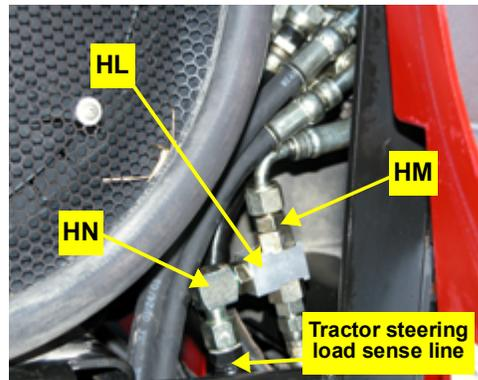

Figure 6c: Installed load sense shuttle - load sense line reconnected
- c. Connect the hose going back to the steering orbital to the end of the load sense shuttle **HL** with the o-ring face adapter **HM** (Figure 6c).
- d. Attach the tractor load sense line to the o-ring face female elbow **HN** in the center position of the shuttle (Figure 6c).